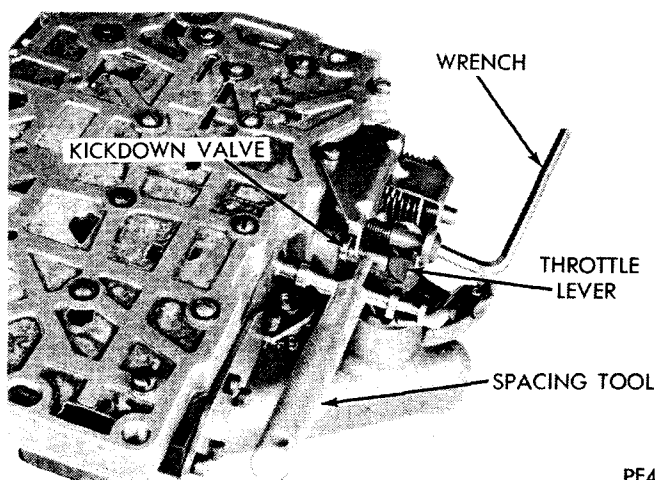

Fig. 17—Throttle Pressure Adjustment
(1) Insert gauge pin of Tool C-3763 between the throttle lever cam and kickdown valve (Fig. 17).
(2) By pushing in on tool, compress kickdown valve against its spring so throttle valve is completely bottomed inside the valve body.
(3) As force is being exerted to compress spring, turn throttle lever stop screw with allen wrench until head of screw touches the throttle lever tang with throttle lever cam touching tool and the throttle valve bottomed. **Be sure adjustment is made with spring fully compressed and valve bottomed in the valve body.**